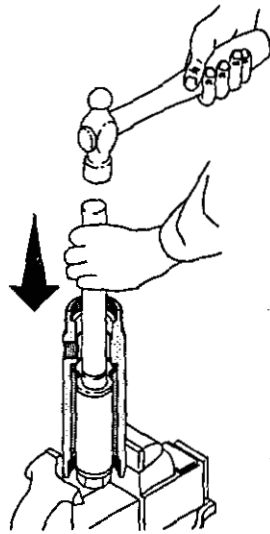

Fig. 28
9. Place the cylinder flats in the vise. Tighten the vise. Remove the wrench (A). Use a rod and mallet to tap and dislodge the sleeve and sleeve removal tool. See Fig. 28.